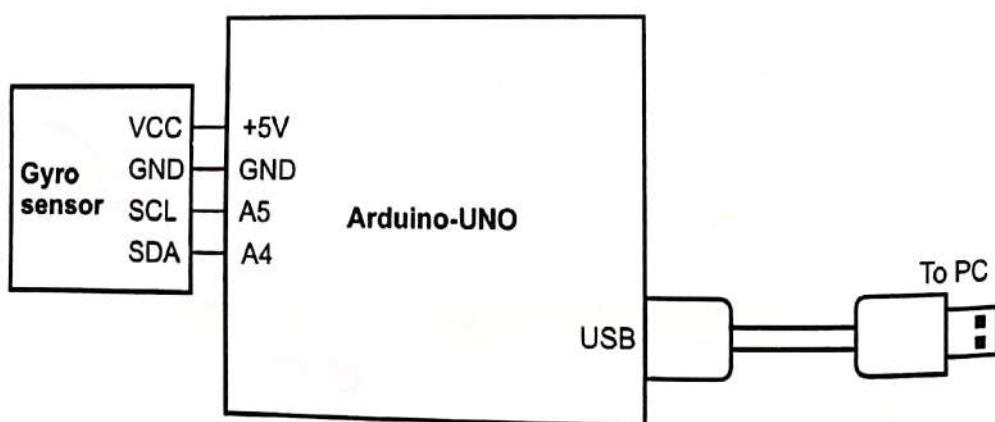

Fig. 2.3.9 : Gyroscope sensor interfacing with Arduino-UNO
- Fig. 2.3.9 shows gyroscope sensor interfacing with Arduino-UNO.